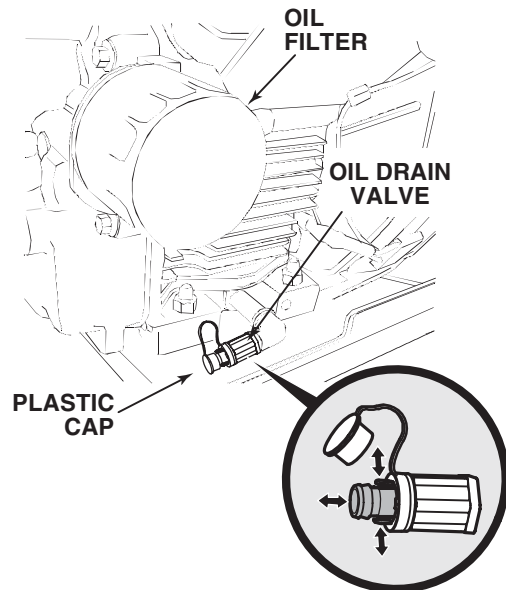

Figure 6-1
3. Unseat the plastic dust cap from the engine oil drain valve. To prevent loss of the cap, do not remove the cap's retaining ring from the drain valve (Refer to Figure 6-1). Remove the dipstick and oil fill cap.
5. Pinch the tabs on the oil drain valve, then pull outward to begin draining oil. See Figure 6-1.